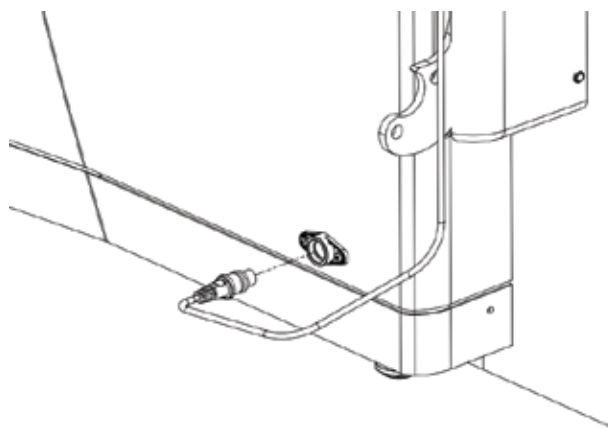

Fig 12.5e
- The handset may now be plugged in to the port at the base of the cover (Fig 12.5e) and stowed on this hook.